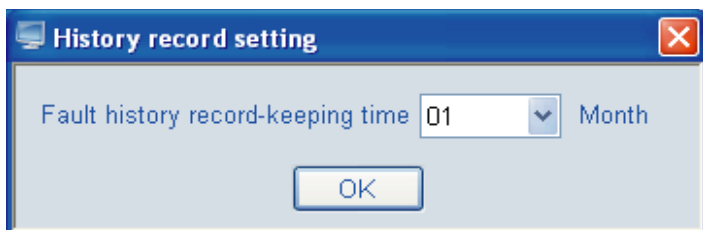

Fig.4-54
②Click “History set” , an interface as Fig. 4-54 displays ——to modify or select the history error saving duration.